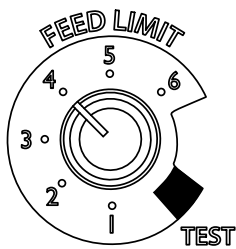

Figure 4.8
4. *Adjust Feed Rate. If this is your first fire or you are trying different pellets, set the feed limit to #4, Figure 4.8. This is a conservative number and will probably need to be increased. After you know a feed rate setting that works well, use that setting. Remember, if your feed rate is too high you may waste fuel.*